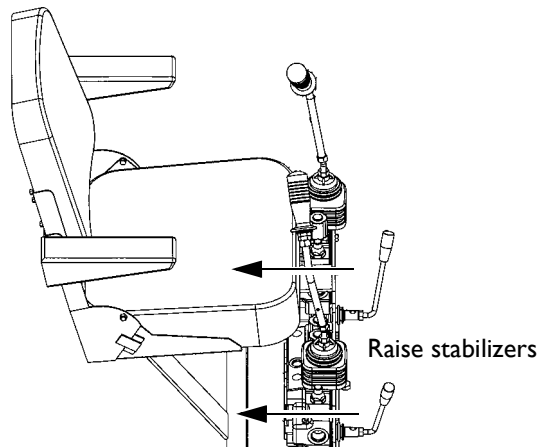

Figure 7
- The stabilizers are **raised** by pulling and holding the stabilizer control levers **back** towards the seat (see *Figure 7*, below).